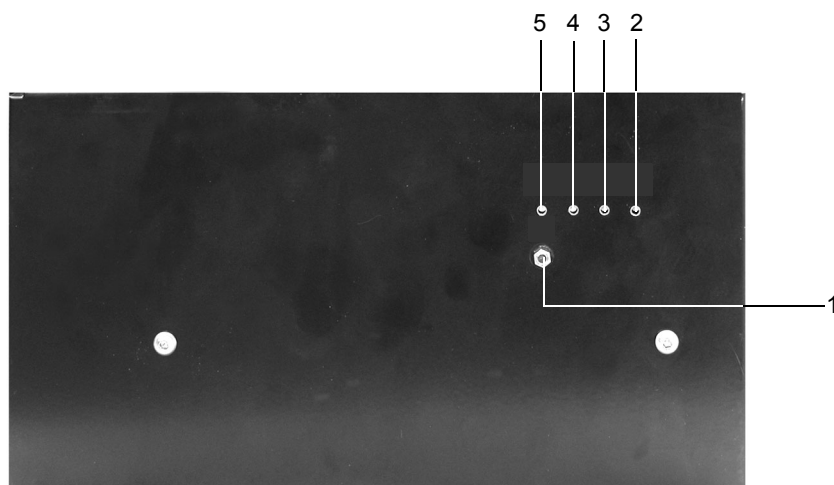

Fig. 28: Status LEDs
3. You have to press the reset button ((3) in Fig. 28 on page 60) on the rear side of the illumination module, before you can restart it.